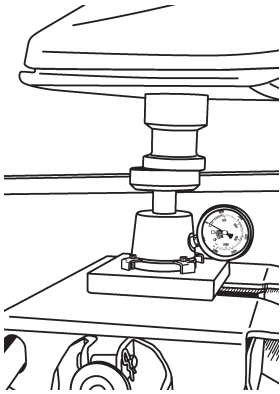

FIGURE 6
- You want the downward force of the kingpin to be parallel to the piston and on center. If the force of the kingpin is pushing off to one direction, you will need to raise the kingpin and move the tow vehicle slightly to adjust for the vehicle movement when under load. This will generally mean that you will need to pull the vehicle forward slightly (See Figure 6 on the following page).